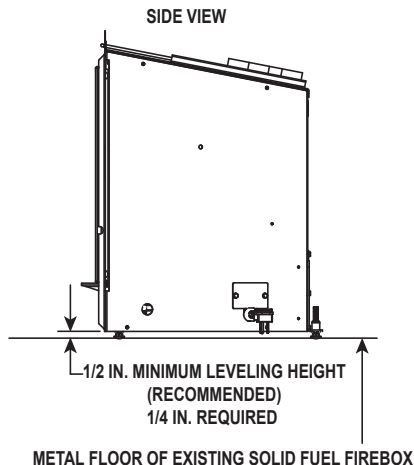

Figure 5.1-A
- A minimum 1/2 inch gap from the bottom of the appliance to the metal floor of the solid fuel firebox is **RECOMMENDED** for optimal fan performance. See side view in Figure 5.1.